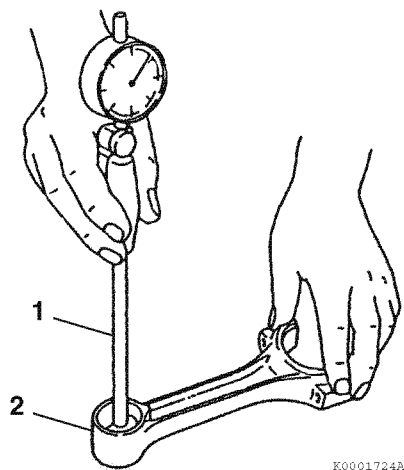

Figure 6-119
1. Measure the wrist pin bushing bore using a bore gauge (1, **Figure 6-119**). Replace the bushing if not within specifications. If the bushing has been removed, measure the inside diameter of the connecting rod small end (2, **Figure 6-119**). See *Connecting Rod* on page 6-18 for specifications.